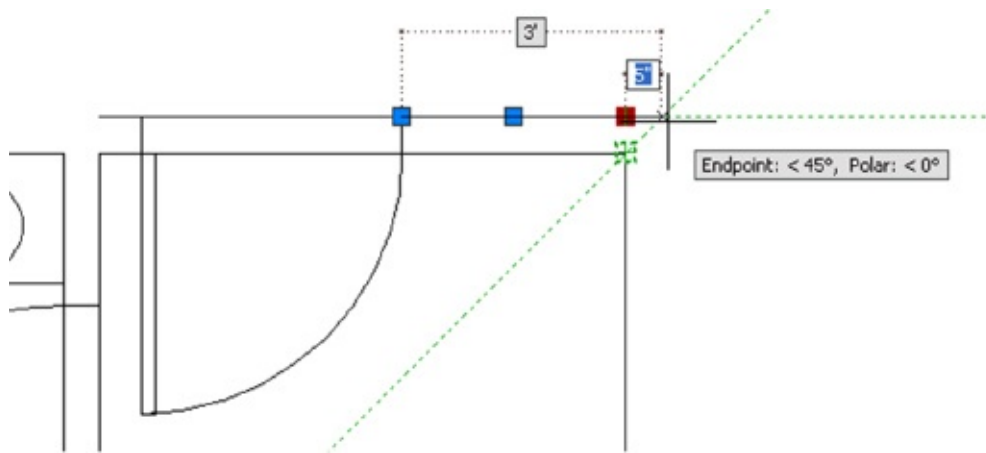

FIGURE 6.27 The Osnap Tracking vector
4. Place the cursor on the upper-right corner of the inner wall on the plan until you see the Endpoint osnap marker; then move the cursor up and to the right of the corner at a 45° angle. The Osnap Tracking vector appears at a 45° angle. Notice the small X that appears at the intersection of the Osnap Tracking vector and the line (see Figure 6.27).